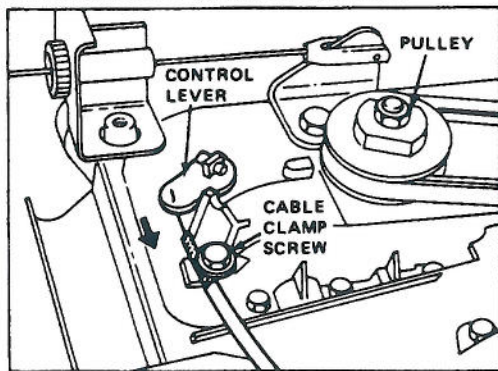

Figure 23
3. **ADJUSTMENT** (Fig. 23) — Loosen cable clamp screw until cable conduit slides. Push transmission control lever toward cable clamp screw and hold lever in place. Pull cable to remove slack and tighten clamp screw.
4. **CHECK ADJUSTMENT** — Assure ground speed control is in "N" and pull mower backward. Pulley (Fig. 23) should not rotate. If pulley does rotate, readjust for neutral: refer to step 3.